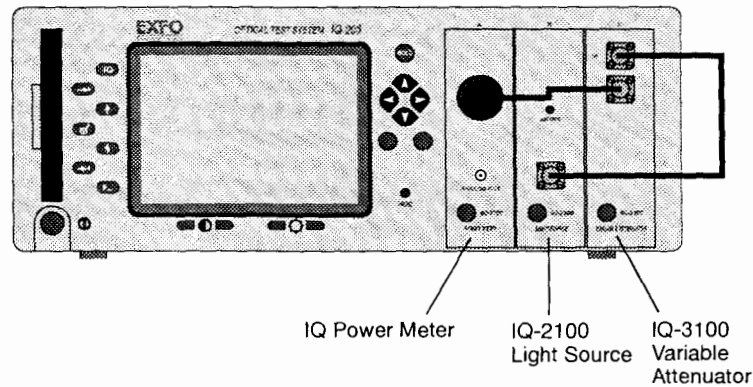

Figure 6-5. Confirming Attenuator Linearity
1. Disconnect the IQ-1100 from the circuit shown in Figure 6-5 and replace it by the detector being tested.